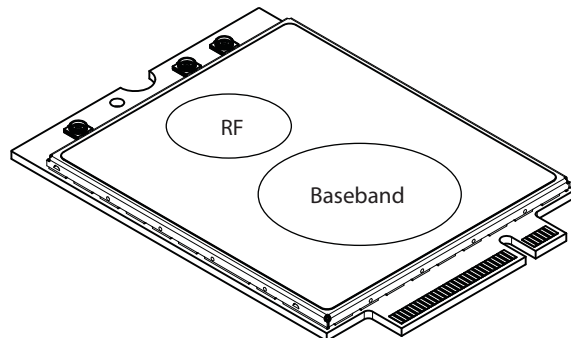

Figure 7-4: Shield Locations (Top View)
Specific areas requiring heat dissipation are shown in Figure 7-4:
- Monitor temperature at all shield locations. Attach thermocouples to the areas indicated in Figure 7-4 on page 64 (RF, Baseband).